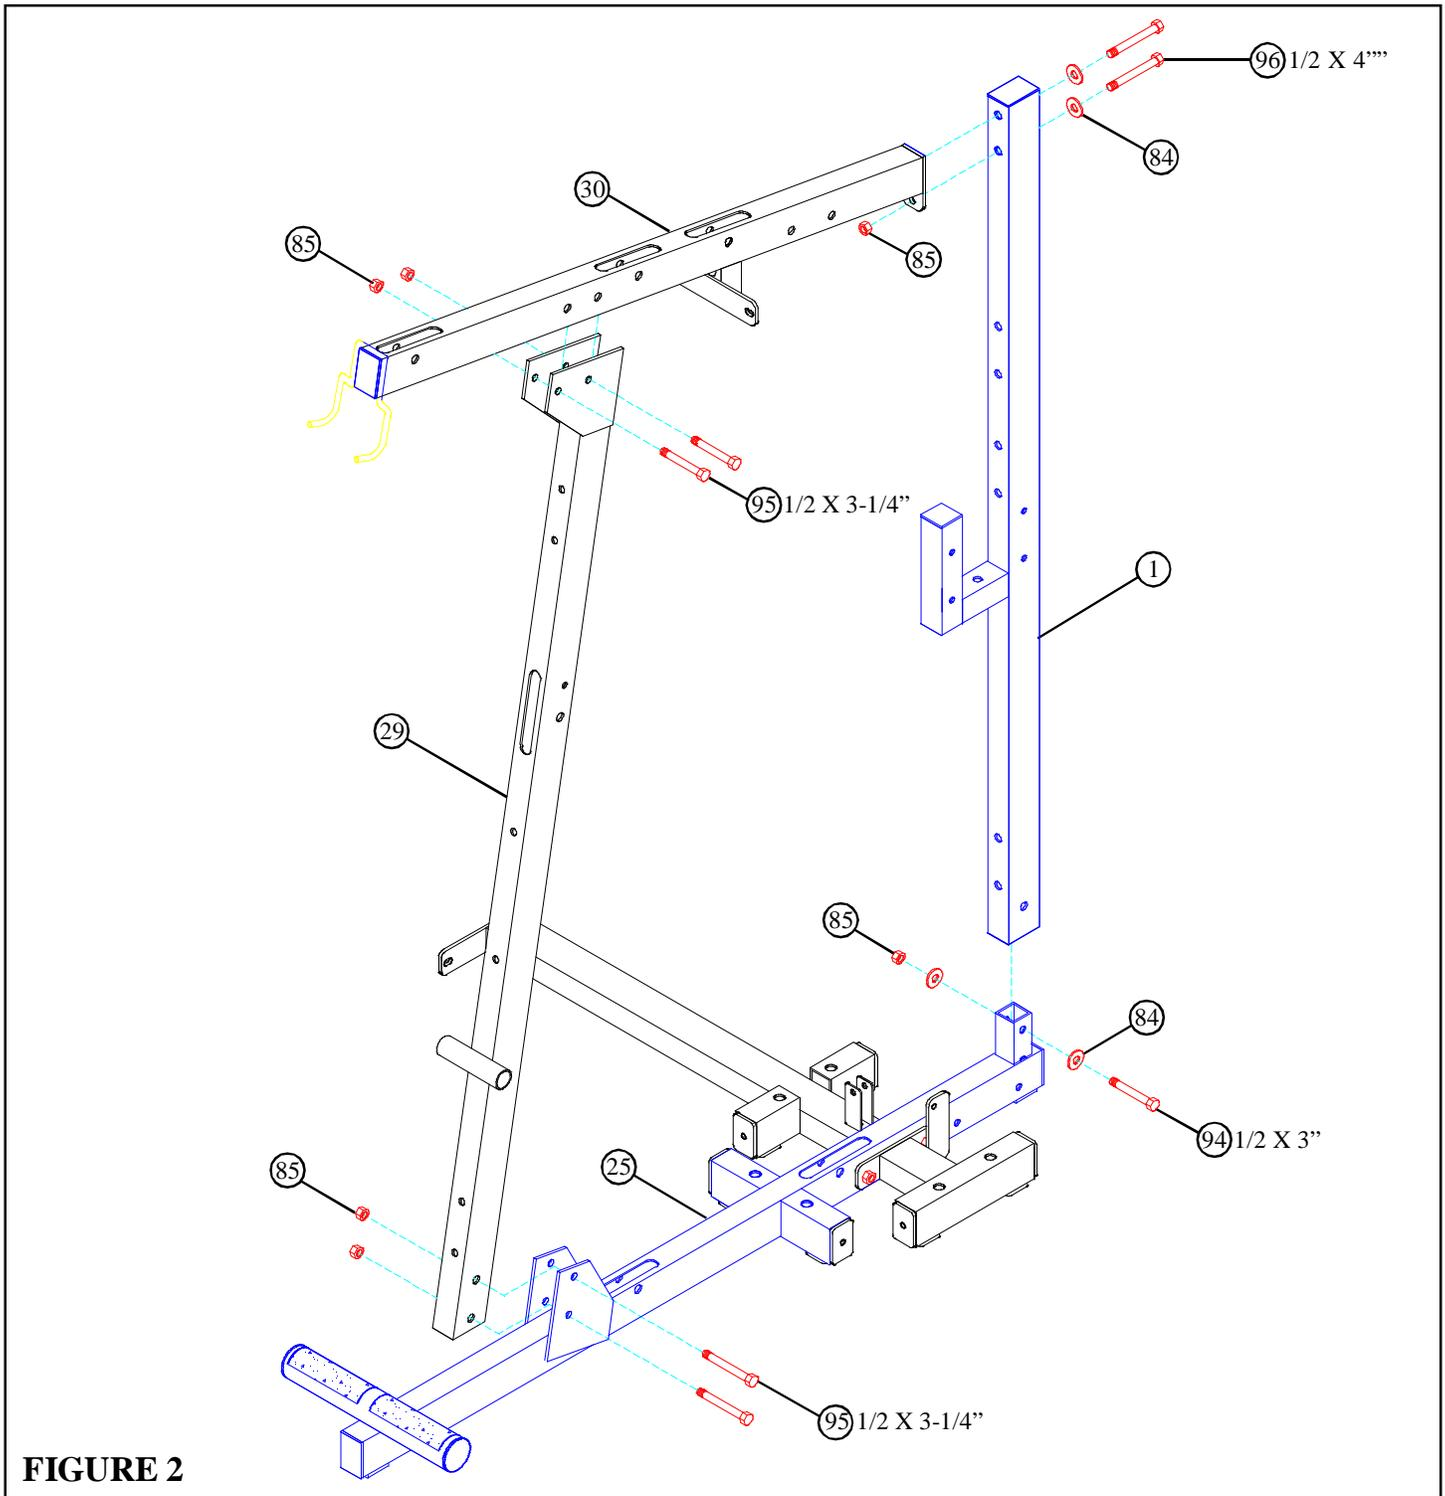

FIGURE 2
- **LOOSELY** assemble the FRONT UPRIGHT (29) to the BASE (25) using two 1/2 X 3-1/4" BOLTS (95) and two 1/2" LOCK NUTS (85) as shown in FIGURE 2.
- **LOOSELY** assemble the REAR UPRIGHT (1) to the BASE (25) using one 1/2 X 3" BOLT (94), two 1/2" WASHERS (84), and one 1/2" LOCK NUT (85) as shown in FIGURE 2.
- **LOOSELY** assemble the TOP BOOM (30) to the REAR UPRIGHT (1) using two 1/2 X 4" BOLTS (96), two 1/2" WASHERS (84), and one 1/2" LOCK NUT (85) as shown in FIGURE 2.
- **LOOSELY** assemble the TOP BOOM (30) to the FRONT UPRIGHT (29) using two 1/2 X 3-1/4" BOLTS (95) and two 1/2" LOCK NUTS (85) as shown in FIGURE 2.